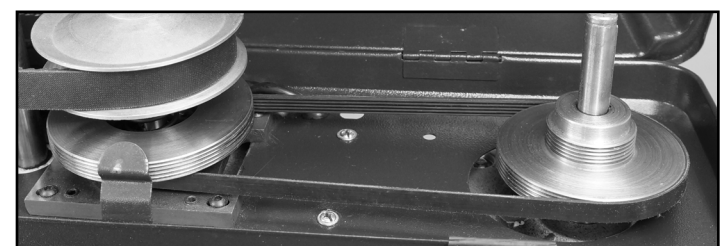

FIG. 21
1. To adjust the operating speeds while the drill press is running, rotate the Speed Handle Lever (#39B, Fig. 21, C) until the desired speed is shown on the LED display (D) on the machine front. FIG. 21.